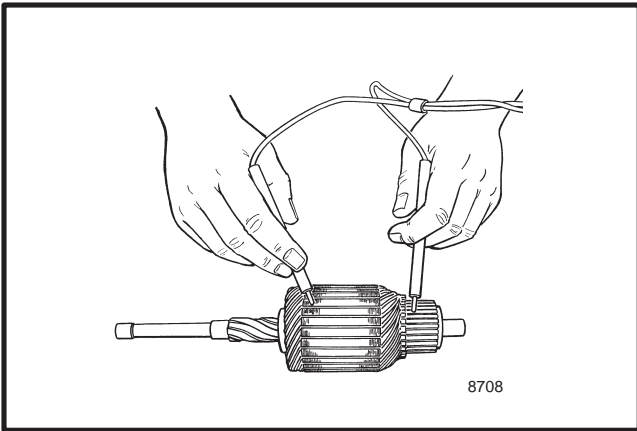

FIGURE 8. ARMATURE GROUND TESTS
3. Inspect the lift chains for cracks or broken links and pins. Check for corrosion or worn holes in the links. When the pins or the holes wear, the chain becomes longer. The chain links that run over the chain sheaves have the most wear. If a chain is 3% longer than a new chain, the chain must be replaced. If a chain scale is available, check the lift chains as shown in FIGURE 8. If a chain scale is not available, measure 20 links of chain. Compare the measurements with the lengths given in TABLE 1. Replace the chains if the increase in length is 3% or greater.